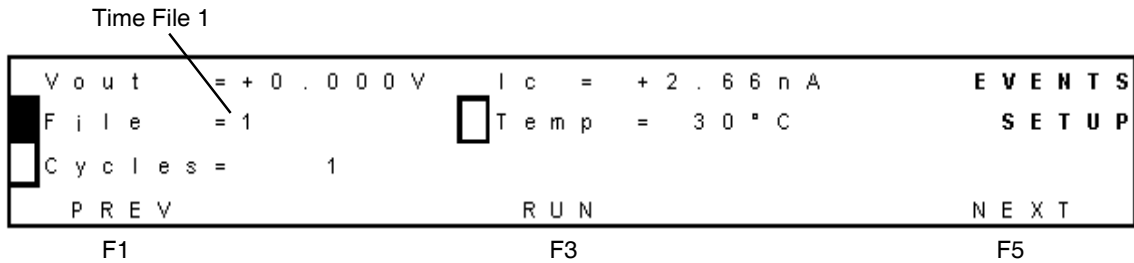

Figure 3-26 Events Setup Screen
2. Select **F4 EVENTS**. The Events Setup screen appears (Figure 3-26).